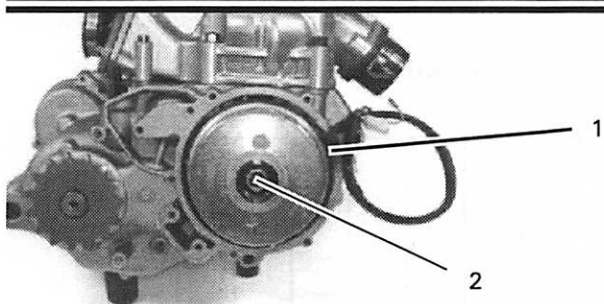

Figure 128
2. Install the flywheel (1, Figure 128) as follows:
- Install the lockwasher and the flywheel nut (2, Figure 128). Tighten the flywheel nut to 70 N.m (52 ft.-lb.).